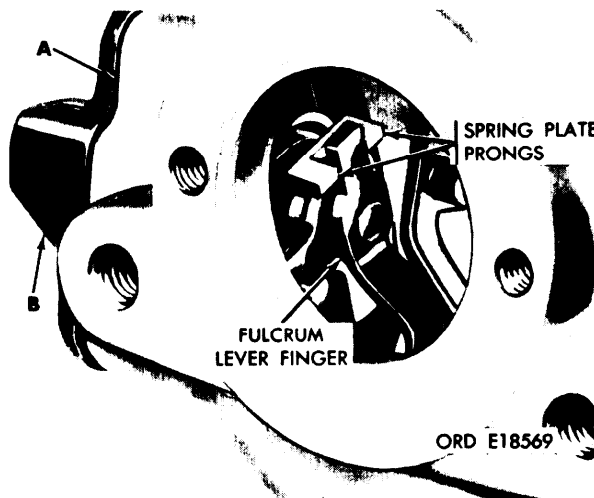

Figure 3-77. Installing operating shaft bearing and associated parts in governor housing.
(6) Refer to figure 3-77. Install operating shaft bearing gasket (A) and operating shaft bearing and associated parts (B) on governor housing. Spring plate prongs must engage fulcrum lever finger. Groove in end of operating shaft must be vertical when installed, see figure 3-61.
(11) Refer to figure 3-77 to insure that the spring plate prongs have engaged the fulcrum lever assembly finger.